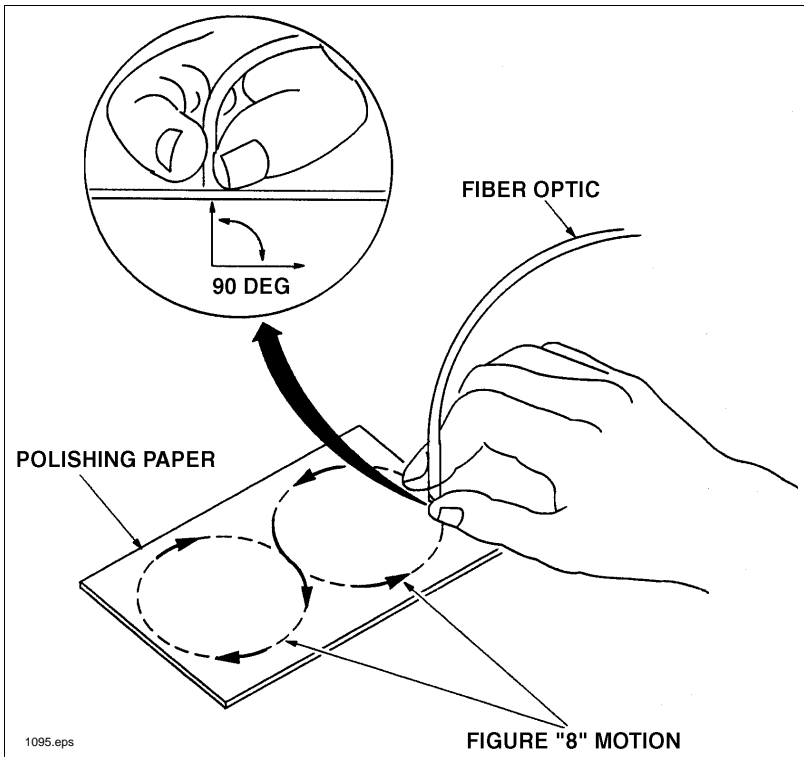

Figure 3. Pattern and orientation of the optical fiber during polishing.
2. Wet the 600 grit polishing paper with water or light oil and place it on a flat, firm surface. Hold the optical fiber upright, at right angles to the paper, and polish the fiber tip with a gentle "figure-8" motion as shown in **Figure 3**. You may get the best results by supporting the upright fiber against some flat object such as a portion of a printed wiring board.